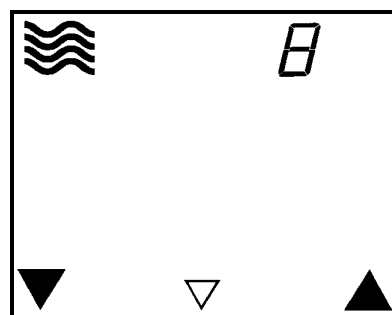

Fig. 17
1. Select program 'setting descaling signal', see figure 17.